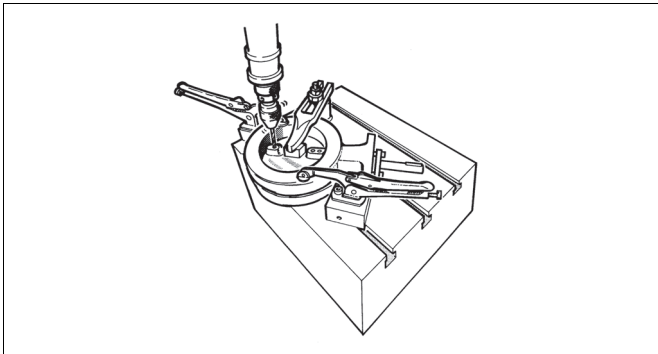

Fig. 13 Drilling the pins
- Remove the clamp ring (2) and seat ring (4) according to section 5.4.
- Set the valve horizontally on a sturdy surface so that the flat side of the disc lays against the surface (see Fig. 13).